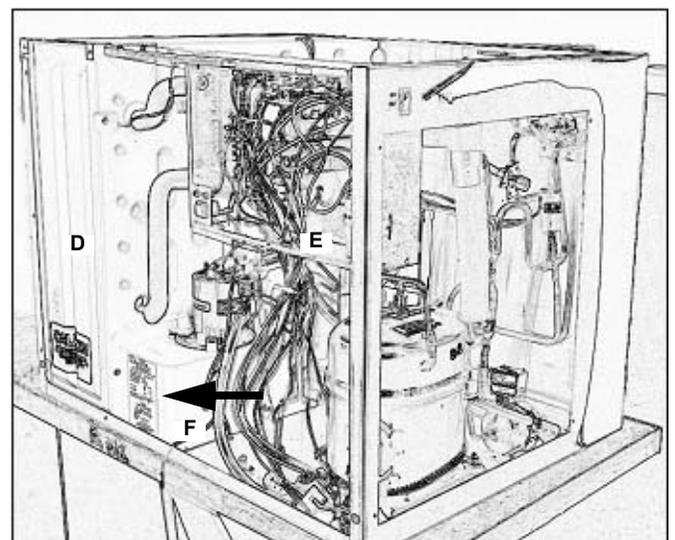

FIGURE 9
4. Remove the evaporator splash panel (D) and control box cover (E) [not shown] (FIGURE 9).
The refrigerant type and charge are indicated on the serial plate, located on the water pan (F) (FIGURE 9). This charge amount does NOT include that which is normally present in a factory charged condenser or line set.